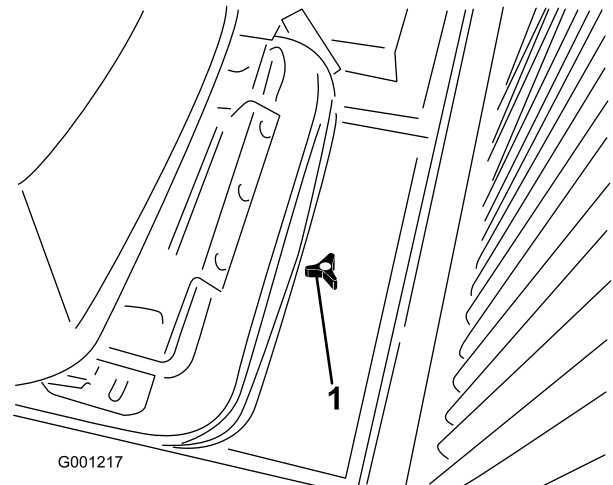

Figure 26
1. Loosen the knob and remove the access cover at the rear of the seat mounting plate (Figure 26).